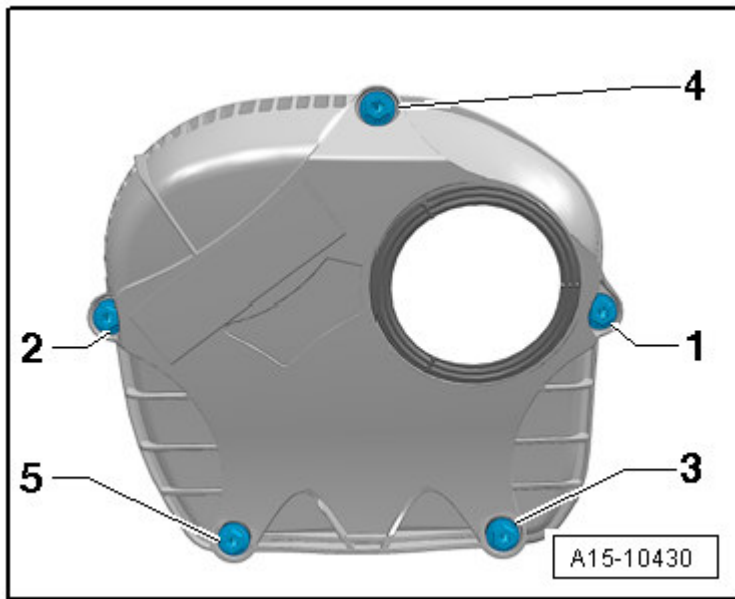

Fig. 7: Identifying Upper Timing Chain Cover - Tightening Sequence
- Tightening sequence, refer to **Fig. 7**.